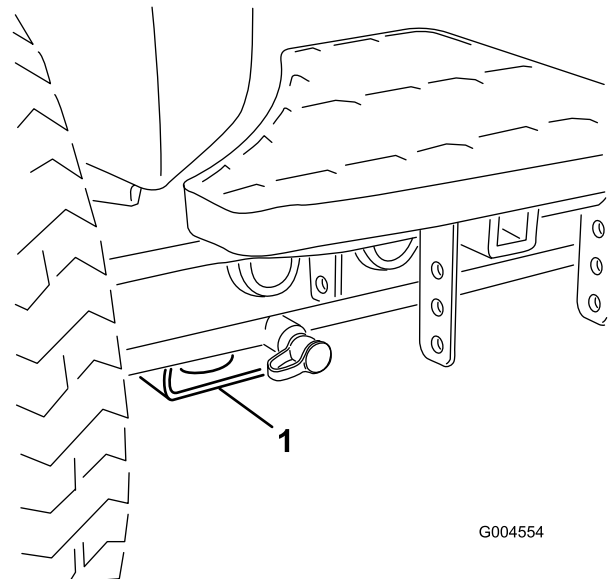

Figure 33
- Front—rectangular pad, under the axle tube, inside each front tire (Figure 33).